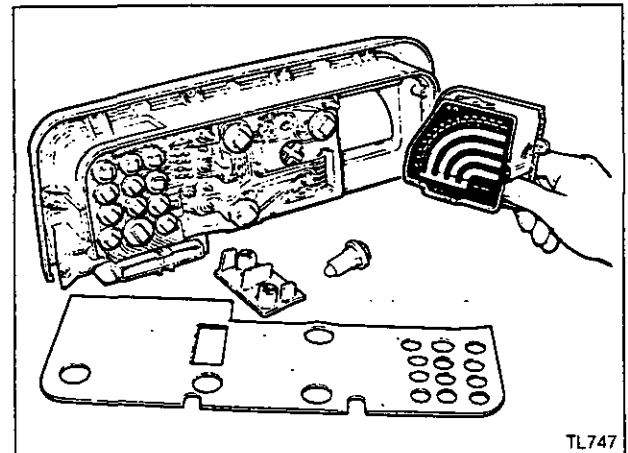

Figure 5
3. Withdraw the speed chart assembly from the back (Fig.5).